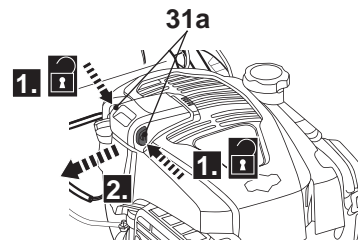

Fig. 8
- Press the release buttons (31a), hold them in position and slide the battery pack (31) from the battery docking port (17) (Fig. 8).